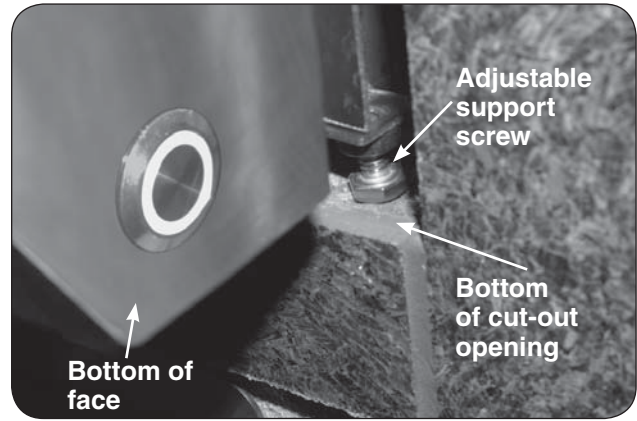

Fig. 22-1 Adjust support screws
6. Rotate the adjustable support screws to the left to raise and to the right to lower the respective side of the appliance grill. Use a $\frac{7}{16}$ " open-end wrench as needed. See Fig. 22-1.